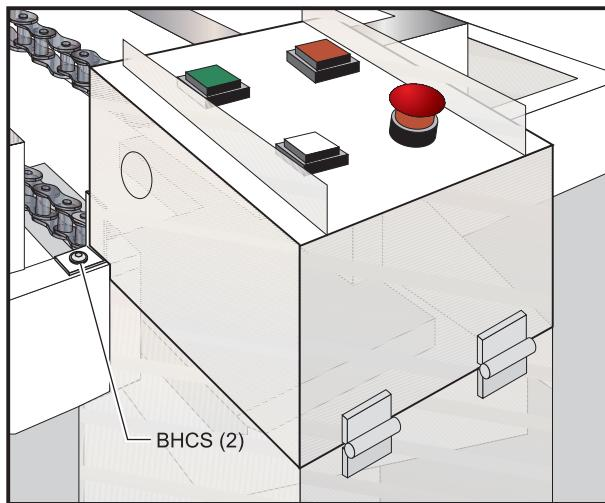

Figure 3.8 APC operator's panel cover.
16. Open the hinged APC operator's panel cover by removing the two BHCS (see Figure 3.8).